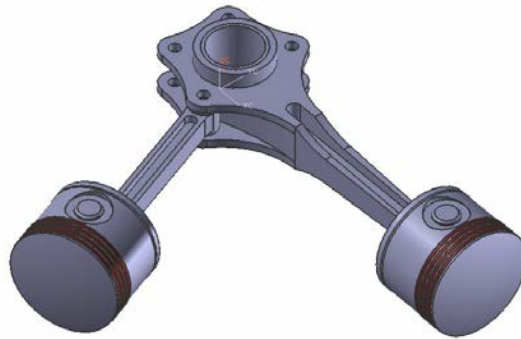

Figure 9-66 The main assembly after assembling the first instance of the sub-assembly
3. Assemble the first instance of the Articulated Rod_Piston sub-assembly with the main assembly by using the assembly constraints. The assembly after assembling the first instance of the sub-assembly is shown in Figure 9-66.